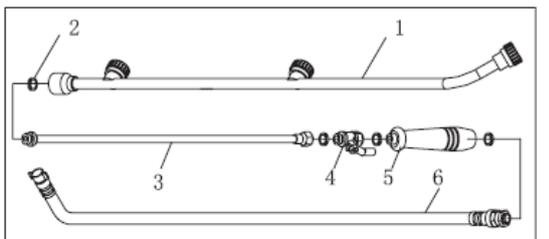

Figure 1
5.1.1 Connecting of spraying parts. Before start, all the connections should be correct, the method is as Figure 1.